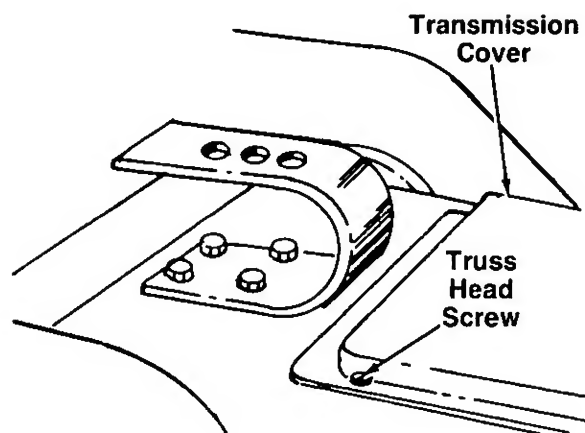

FIGURE 4.
2. Remove the two truss head screws which secure the transmission cover. See figure 4.